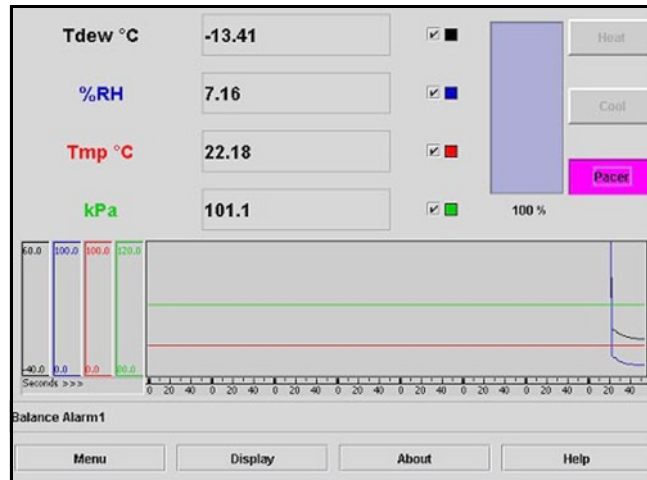

**Figure 46: Balance Adjustment Screw Locations**
5. If more than one bar segment or no bars are illuminated, use the screw or hex driver to adjust the optical bias screw (shown in *Figure 46* below) on the sensor until only one bar is illuminated. You are performing a coarse balance adjustment.